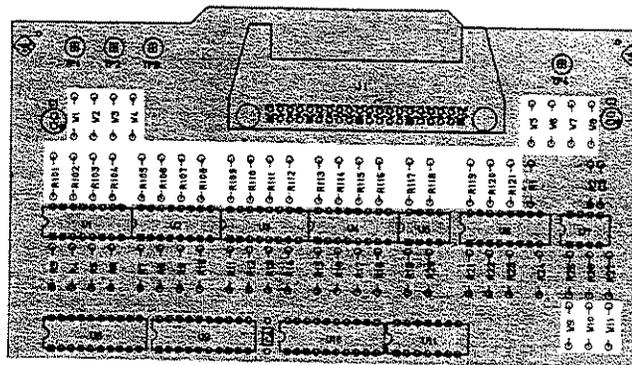

Figure 10-13. Jumper Settings
(1) ORANGE and BLACK (See Figure 10-13.)